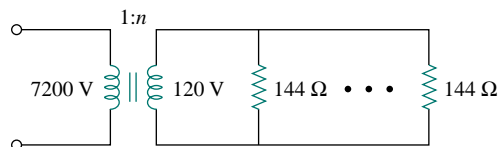

Figure 13.130 For Prob. 13.76.
13.76 Ten bulbs in parallel are supplied by a 7200/120-V transformer as shown in Fig. 13.130, where the bulbs are modeled by the $144\text{-}\Omega$ resistors. Find: